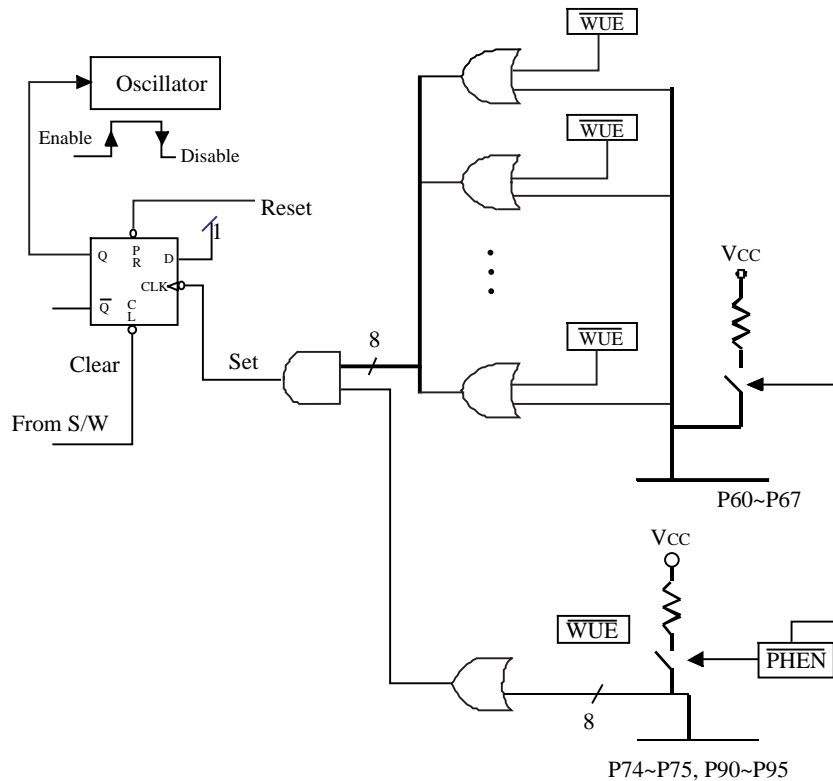

Fig. 5 Block diagram of sleep mode and wake-up circuits on I/O ports
Bit 4 (SLPC) This bit is set by hardware at the falling edge of wake-up signal and is cleared by software. SLPC is used to control the operation of oscillator. The oscillator is disabled (oscillator is stopped, the controller enters the SLEEP2 MODE) on high-to-low transition on SLPC bit and is enabled (the controller is awakened from SLEEP2 MODE) on low-to-high transition on SLPC bit. In order to ensure the stable output of the oscillator, once the oscillator is disabled and is enabled again, there is a delay for approximately 18 ms (oscillator start-up timer, OST) before the next instruction of program being executed. The OST is always activated by wake-up from sleep mode whether the Code Option bit WTC is "0" or not. After waking up, the WDT is enabled if Code Option WTC is "1". The block diagram of SLEEP2 MODE and wake-up caused by input triggered is depicted in Fig. 5. SLPC bit is readable and writeable.
- (a) input triggered, refer to Fig. 5. When wake-up, the controller will continue to execute program in-line. In this case, before entering SLEEP2 MODE, the wake-up function of the trigger sources (P60~P67, P74~P75, and P90~P91) should be selected (e.g. input pin) and enabled (e.g. pull-high, wake-up control). One